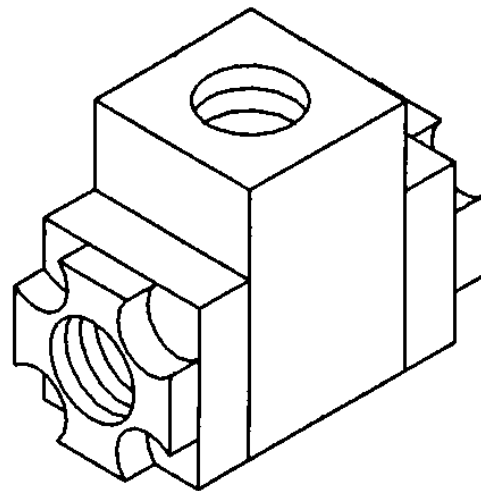

FIGURE 4-5 – SHUTTLE VALVE
**Shuttle Valve** (FIGURE 4-5) – Also known as a double check valve, the shuttle valve is a device which will take two (2) supply signals and allow the one with the highest pressure to pass through. The shuttle valve is used to provide control air pressure from either the reservoir or plant air system, as required during different operating conditions.